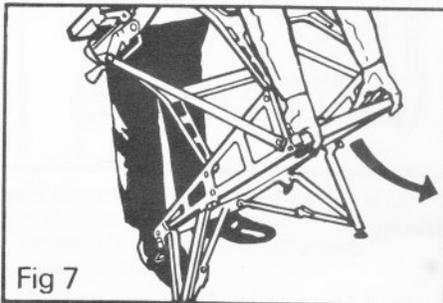
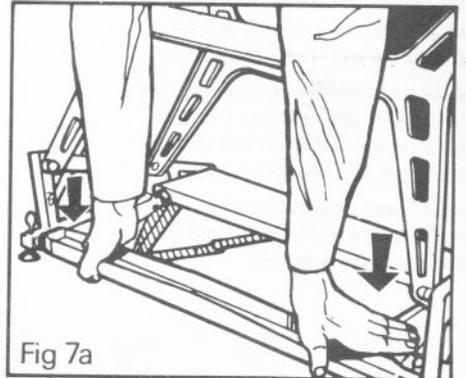

Fig 7
Fig 7a
- 7 Tilt the Workmate towards you on its front feet, reach over the vise bars and open rear feet by applying pressure to both sides of the rear leg simultaneously, see Fig. 7 — recommended hand position is shown in Fig. 7a. Again ensure that the leg support struts are fully extended as for the front legs.